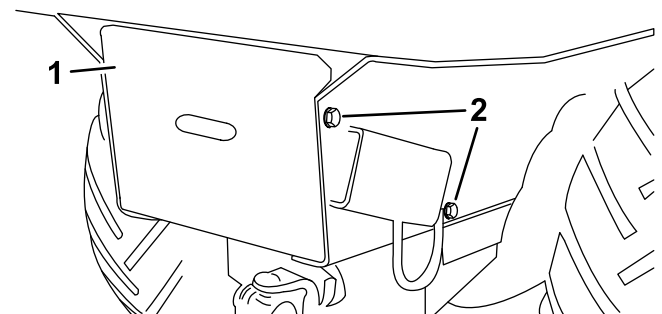

Figure 28
2. Remove the bolts securing the battery tray, located on both sides of the machine (Figure 28).